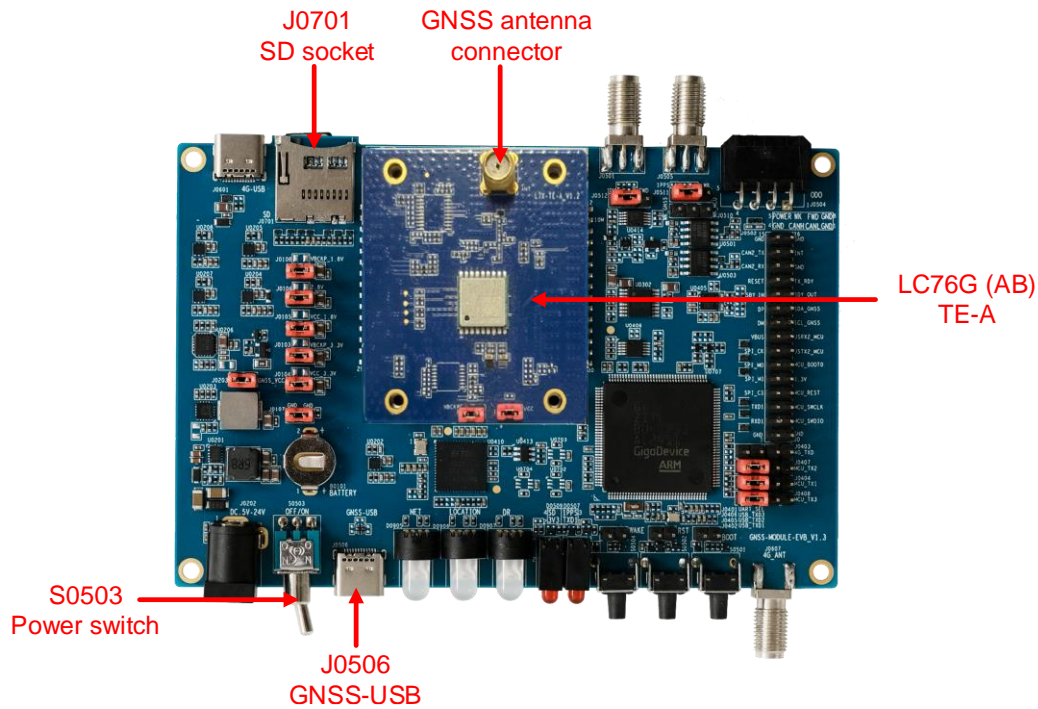

Figure 3: EVB Interfaces
Step 2: Set up the GNSS-MODULE EVB connections. Make sure that connections to related interfaces (as shown in Figure 3: EVB Interfaces) are properly configured.
1. Make sure that jumper caps are positioned as in Figure 3: EVB Interfaces before using the EVB for testing.